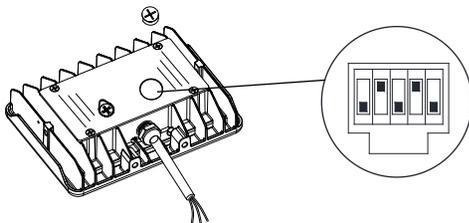

Figure 5-1
- Use a screwdriver or coin to unscrew the translucent plug, as shown in Figure 5-1